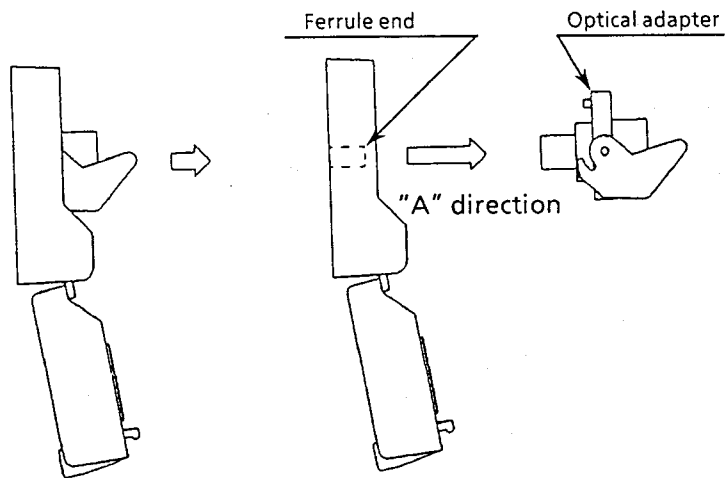

Fig. 5-3
3. Pull the lever to the "A" direction and remove the optical adaptor. Then, the ferrule end of the built-in optical fiber can be seen. Clean it with cleaning paper for optical devices soaked with alcohol (see Fig. 5-3).